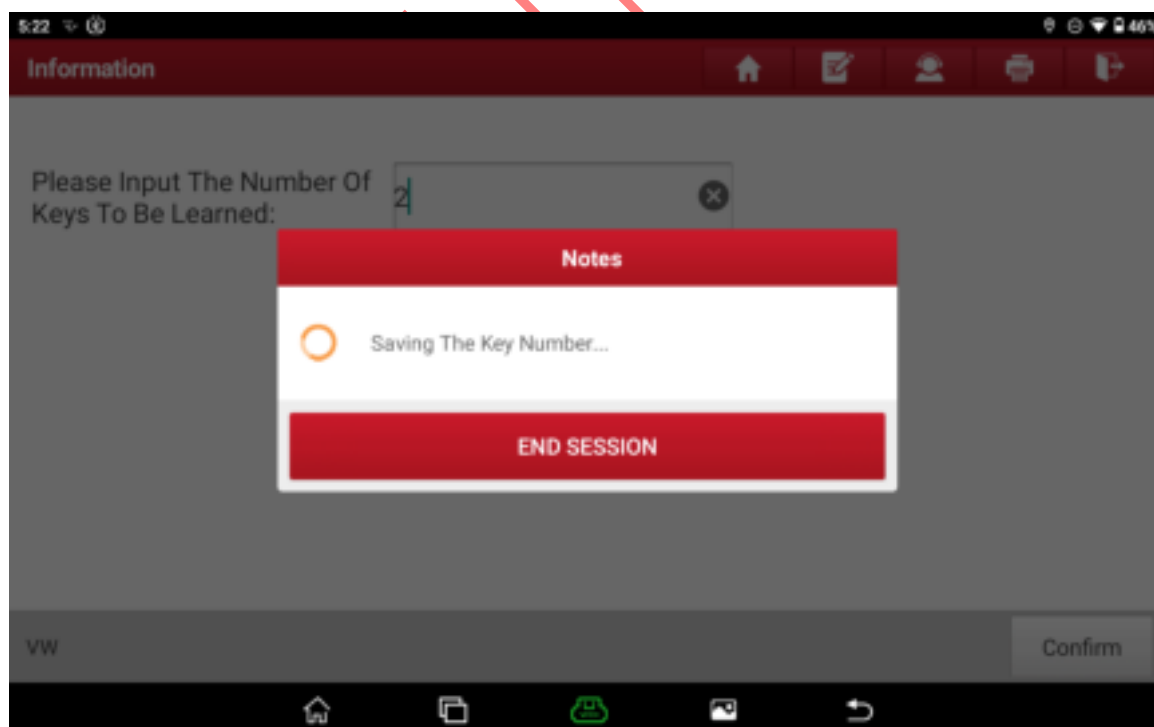

Figure 36
35. After the data is saved, the function is completed, as shown in Figure 36.